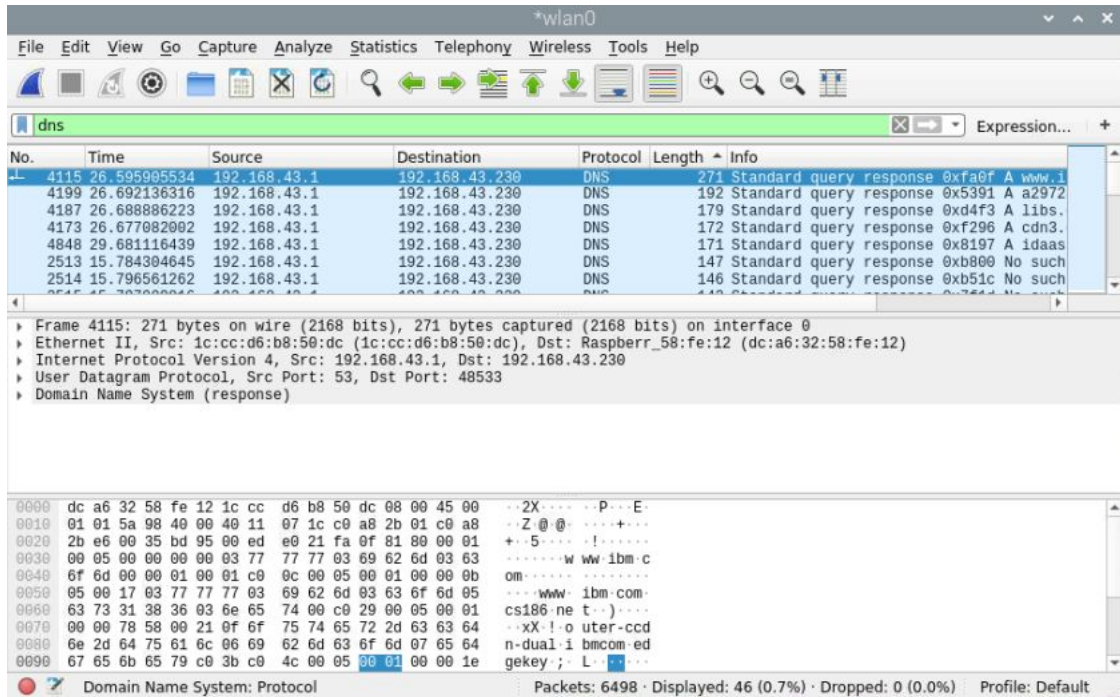

Figure 7.9: Applying a DNS Filter
- **dns:** Shows only DNS traffic (Figure 7.9).